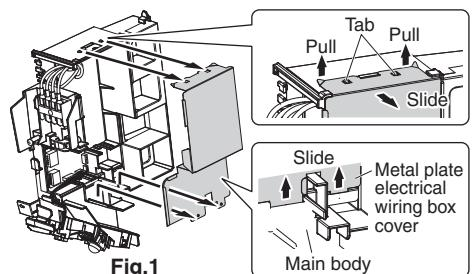

Fig.1
(See Fig.1)
2) Remove the metal plate electrical wiring box cover. (4 tabs) (See Fig.1)